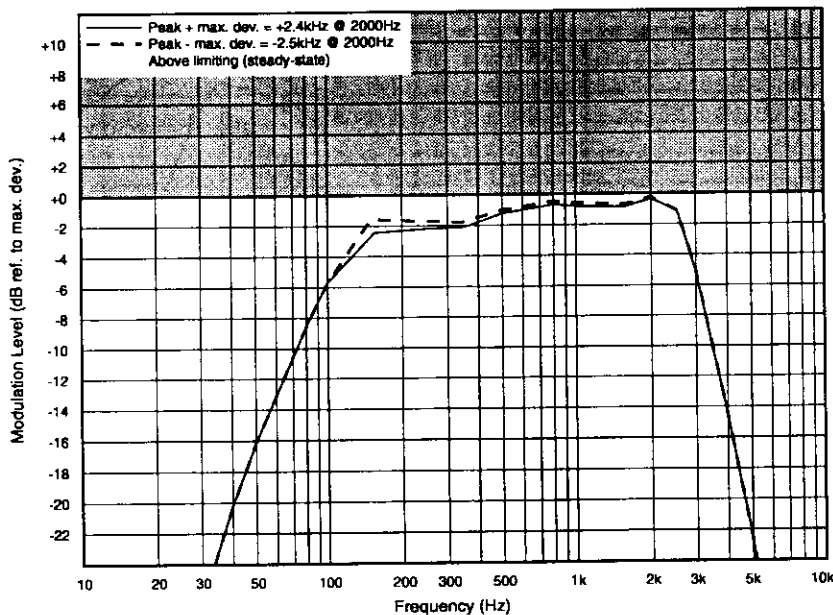

Figure 4.3 T836/837 Limiting Response
If the T836/837 has been correctly adjusted, the pre-emphasis and limiting responses should closely match those shown in Figure 4.2 and Figure 4.3 respectively.
- The response should closely match that shown in Figure 4.3.